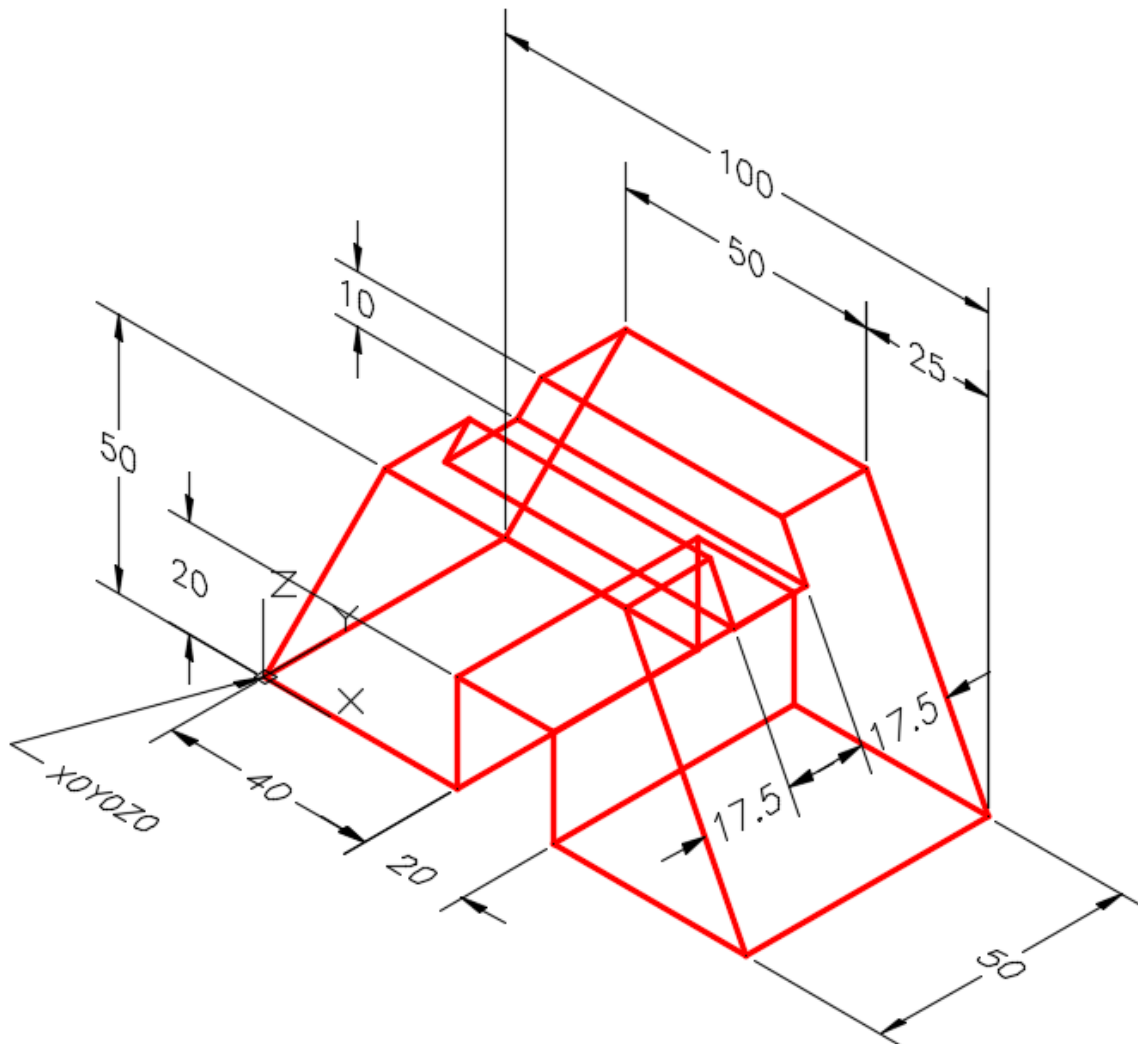

Figure Step 1A
Step 1 On layer: Solid 3, draw a solid model of the object. (Figure Step 1A, 1B, and 1C)